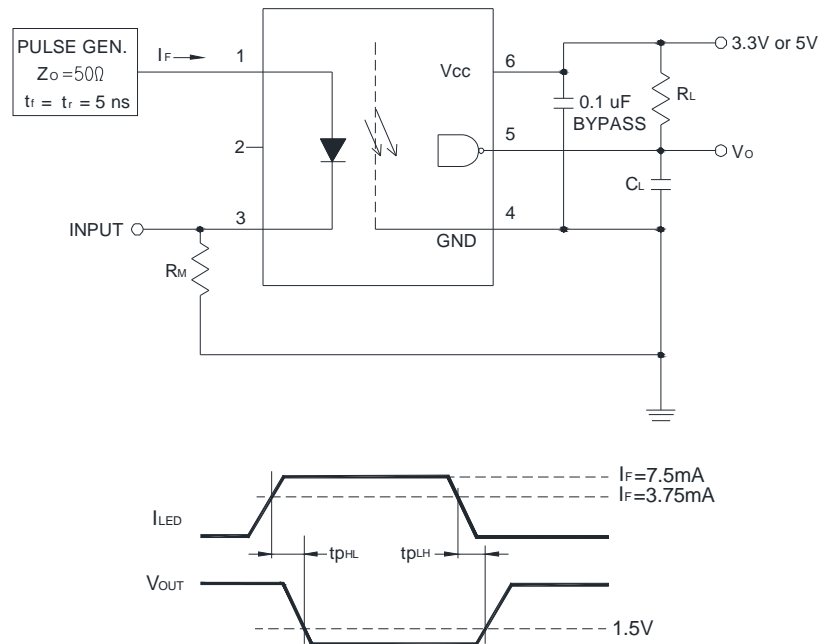

Figure 1: Test Circuit for t_{PHL} and t_{PLH}
1. A 0.1 μF or bigger bypass capacitor for V_{CC} is needed as shown in Fig.1